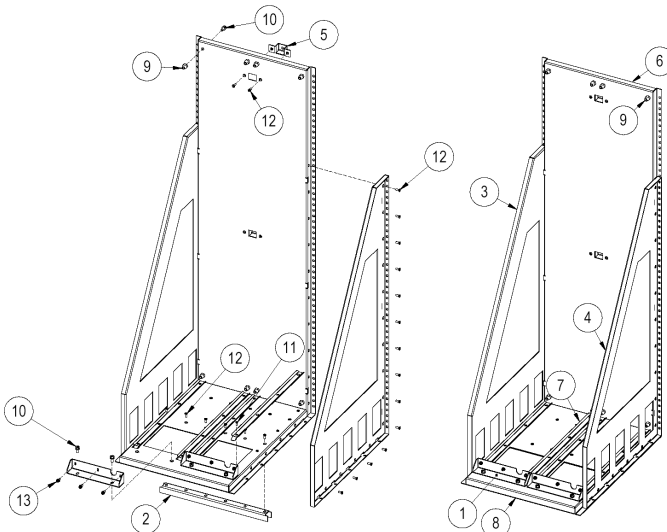

Figure 3 - Assembling of the rack for 2 power modules
- Rack assembling according to figures 3 and 4.